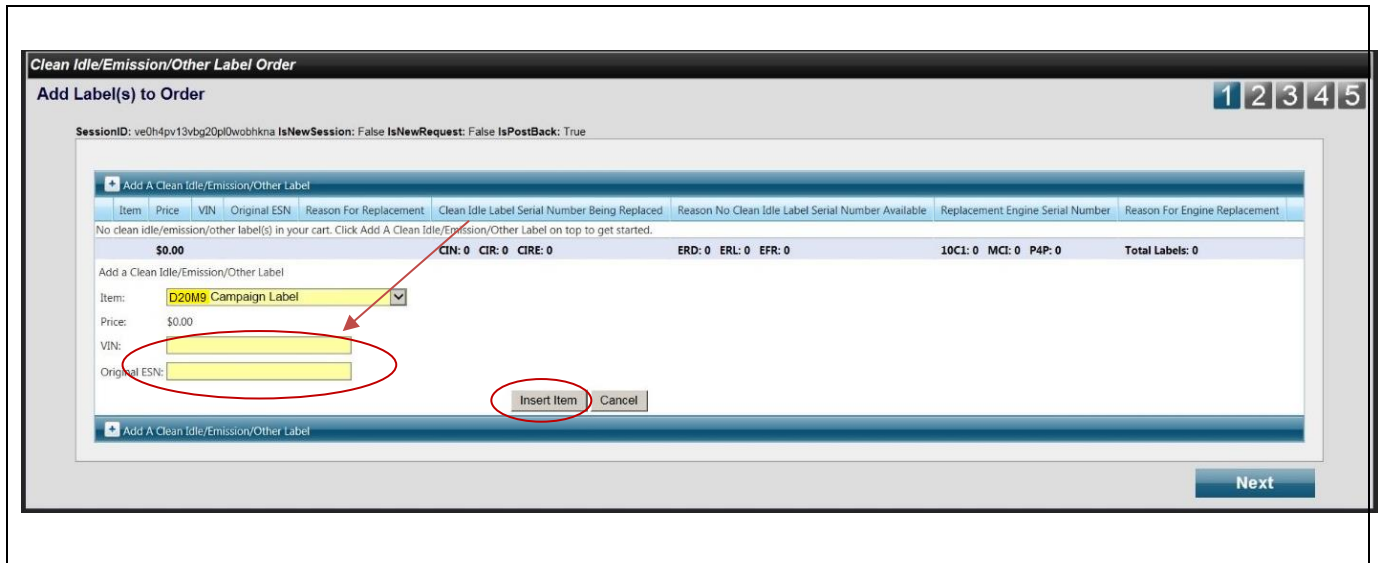

Fig. 11, Emission Label Ordering Process
4. Complete the “VIN” and “Original ESN” fields and select “Insert Item.” See Figure 11.